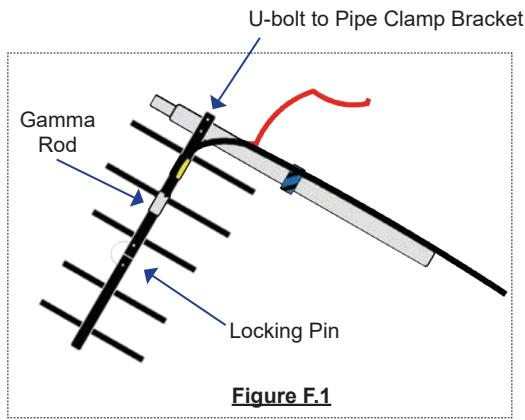

Figure F.1
3. Assemble the two (2) mast sections first.
6. Install the appropriate antenna on the 3rd mast section. If an omni-directional antenna is being used, be sure to match the proper antenna base and to raise and lock the radials. If a Yagi is being used, assemble the antenna and ensure the locking pin is in place before clamping the pipe clamp bracket to the top of the mast. **(See Figure F.1)**